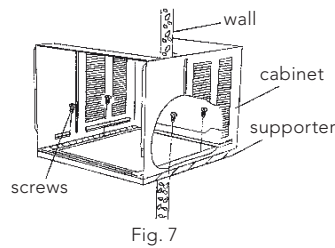

Fig. 7
- 3 When you need to drain off the water, install the drain plug on the frame. Then fix the cabinet onto the support, (provided by the installer unless you elect to install yourself) (see Fig.7).